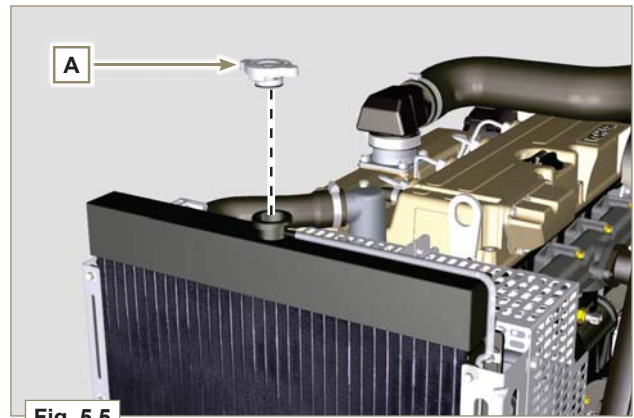

Fig. 5.5
1 - Loosen the plug **A** carefully (pressure circuit) (fig. 5.5).
- 5 - Tighten the cap **A** on the radiator (Fig. 5.5).